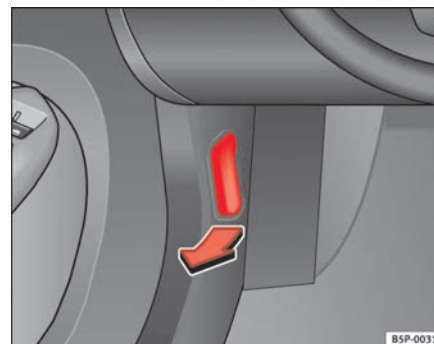

Fig. 162 Detail of foot-well area on driver's side: lever for unlocking the bonnet.
- To release the bonnet, pull the lever under the dashboard ⇒ **fig. 162** in the direction indicated (arrow). The bonnet will be released by a spring action ⇒ .